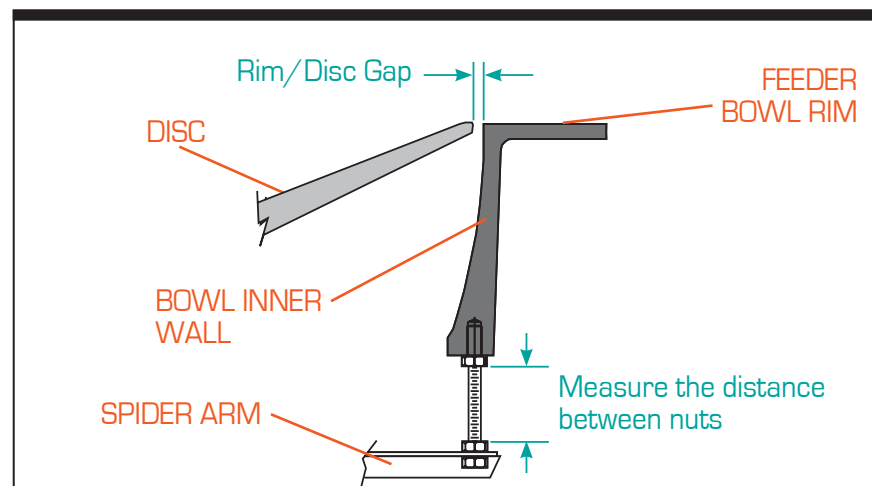

Figure 5-1. Measuring Bowl Gap When Replacing Standard Bowl
- If machining enlarges the inner diameter of the bowl, you may need to replace the disc with a larger one (custom-sized) from your direct supplier. If you do not obtain a larger disc, the gap between the disc and the inner diameter of the bowl may pinch or snag product (see Figure 5-1).
Step 1—Measuring and Removing the Bowl. Measure the height between the bottom of the bowl, and the top of the spider arm (where the threaded rod connects the two parts - see Figure 5-1). Loosen and remove the bottom nut on the spider arm (on each of the eight (8) arms) and remove the bowl - pulling it up and away from the feeder.